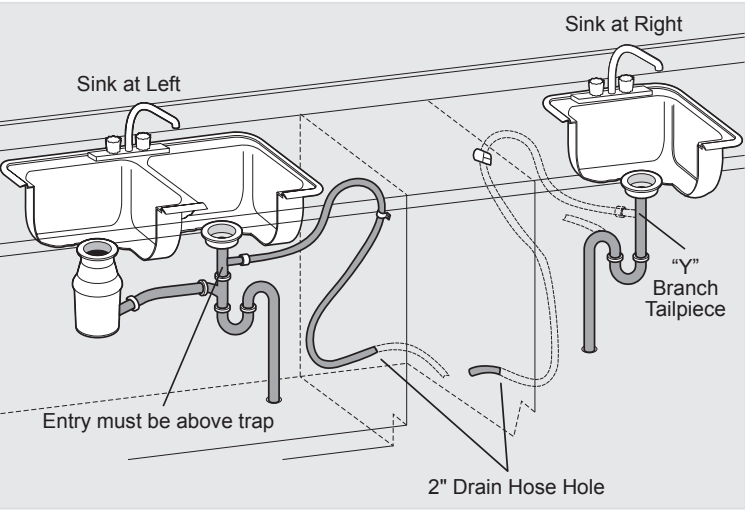

Figure 5
- If you connect to a sink drain, entry will need to be above trap. A "Y" branch tailpiece and connector kit, not included, will make this method easier and includes all needed fittings and instructions. See Figure 5.